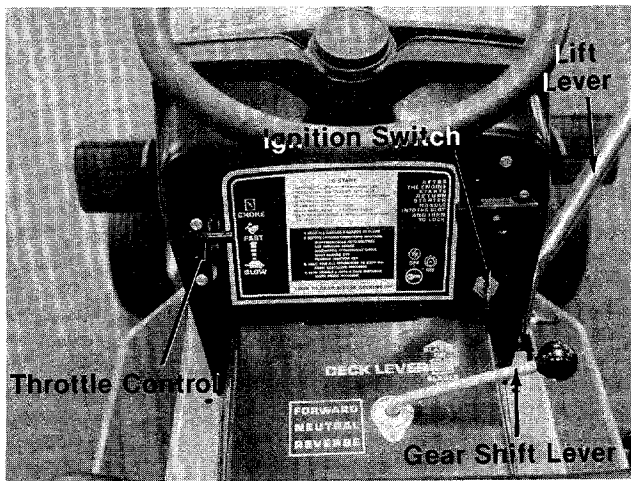

FIGURE 3.
The ignition switch is located on the right side of the dashboard. Turn the key to the "START" position to start the engine. When the engine is running leave the key in the "ON" position. To stop the engine turn the key to the "OFF" position. See figure 3.
If the gear shift lever does not easily move into either the forward or reverse gear, it may be necessary to release the clutch pedal slightly until the gear shift lever moves easily into gear. See figure 3.
6. Set the throttle control lever in the "CHOKE" position. See figure 3.
7. Turn the ignition key to the "ON" position. Twist the recoil starter handle until it is free and pull it with a quick steady motion. After the engine starts, return the recoil starter handle. Twist it until it locks. See figure 3. Slowly return the throttle to the running position as soon as the engine starts.